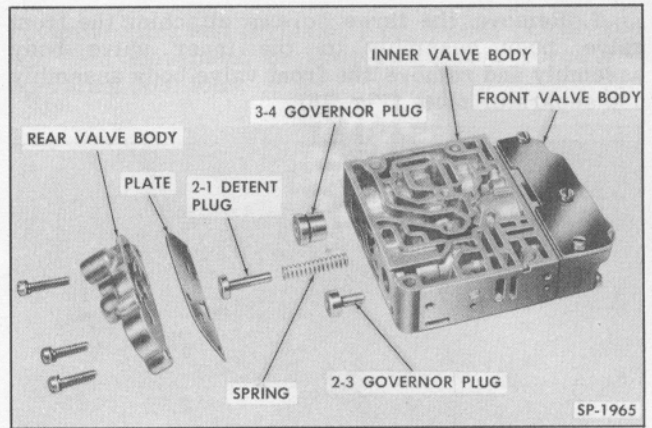

Fig. 33—Rear Valve Body Disassembled
3. Remove the three rear valve body to inner valve body attaching screws and remove the rear valve body and spacer plate (Fig. 33).